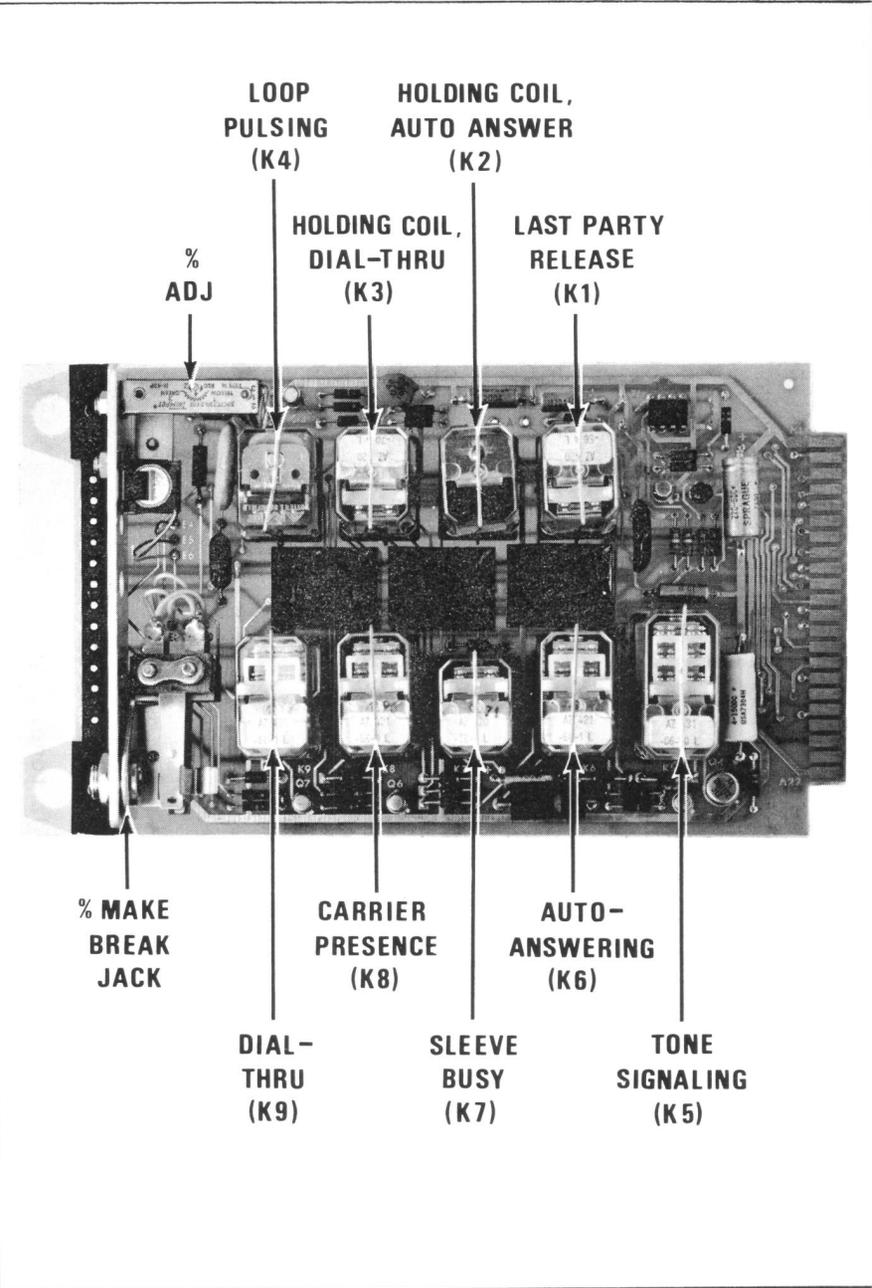

Figure 21 - Card 001561—Component Arrangement
Card 001561:	Figure 21
4. If the above checks are satisfactory, remove Card 001561 from the card cage, place it in a 001261 Card Extender, and insert the extender into the card cage. Then check the operation of the following relays (see Fig. 21):
Several relays on Card 001561 are only indirectly involved with dial-thru operation. Table 6 lists these relays and their functions. See Figure 21 for their location.